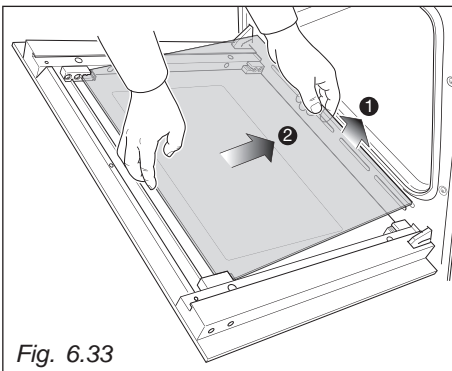

Fig. 6.33
- Gently lift the bottom edge of the pane (arrow 1 in fig. 6.33) and remove it by pulling it out from the top clamps (arrow 2 in fig. 6.33).